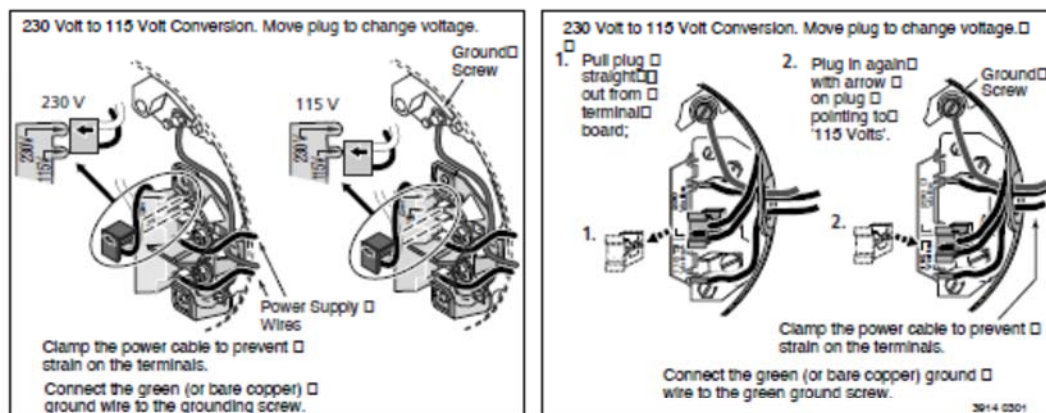

FIGURE 3 – 115/230V Dual Voltage Single Phase Wiring Diagram – ODP Motors
7. Connect current carrying conductors to terminals L1 and L2 under motor canopy. When replacing motor, check wiring diagram on motor nameplate against Figure 3. If the motor wiring diagram does not match either diagram in Figure 3, follow the diagram on the motor.
**IMPORTANT:** 115/230 Volt single phase models are shipped from factory with motor wired for 230 volts. If power supply is 115 volts, remove motor canopy and reconnect motor as shown in Figure 3. Do not try to run motor as received on 115 volt current.